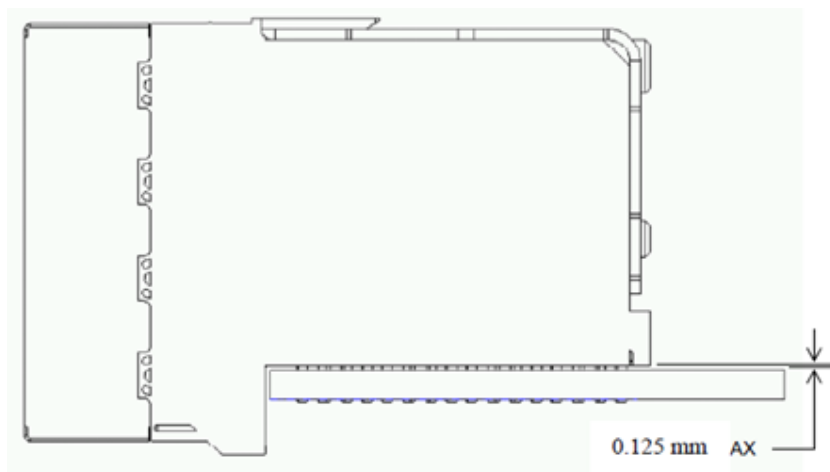

Figure 9: 0.125 mm maximum height off board surface
Step 10. Visually identify the plastic standoff on the stiffener side of the connector, contacting the board surface. This standoff cannot be more than 0.125mm from the board surface, and there should be minimal visible difference in height between adjacent wafers (see Figure 9).